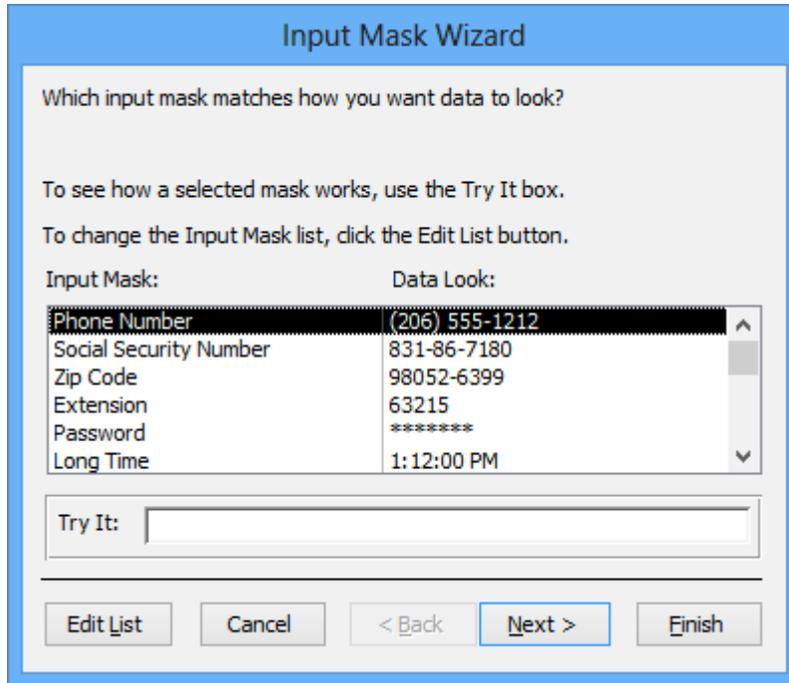

Figure 8: First Window of the Input Mask Wizard
- The first wizard window (Figure 8) appears containing the input mask choices available. You select the input mask according to the type of data contained in the field. You can begin by selecting "Zip Code". Type an example in the Try It area below to experiment with the input mask and click the **Next** button.